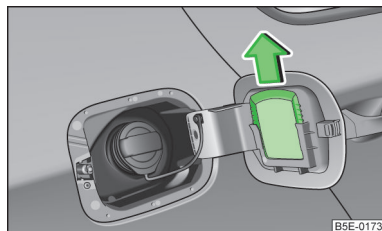

Fig. 177
- Slide out the ice scraper in the direction of the arrow » Fig. 177.